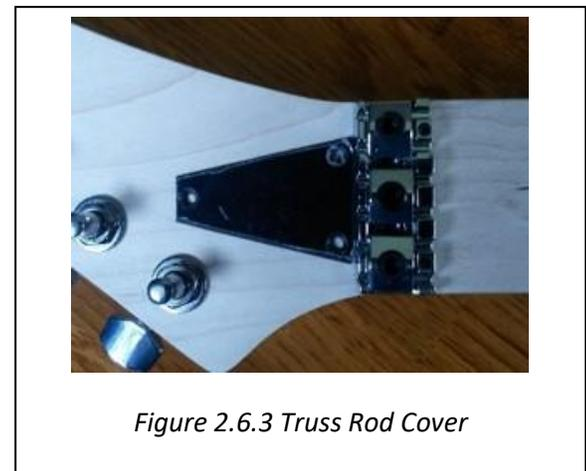

Figure 2.6.3 Truss Rod Cover
1. Center the cover over the Truss Rod adjustment pocket (Figure 2.6.3);
1. Place the Nut (item #15 on the material list) at the end of the Neck, as shown in Figure 2.6.3.